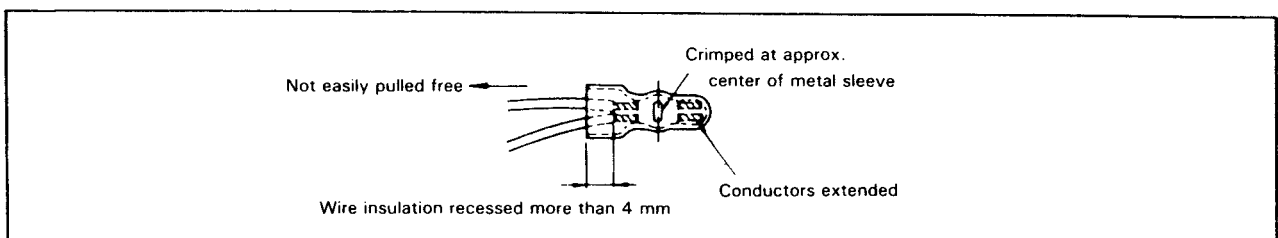

Fig. 7
- 5) Check the four points noted in Fig. 7.